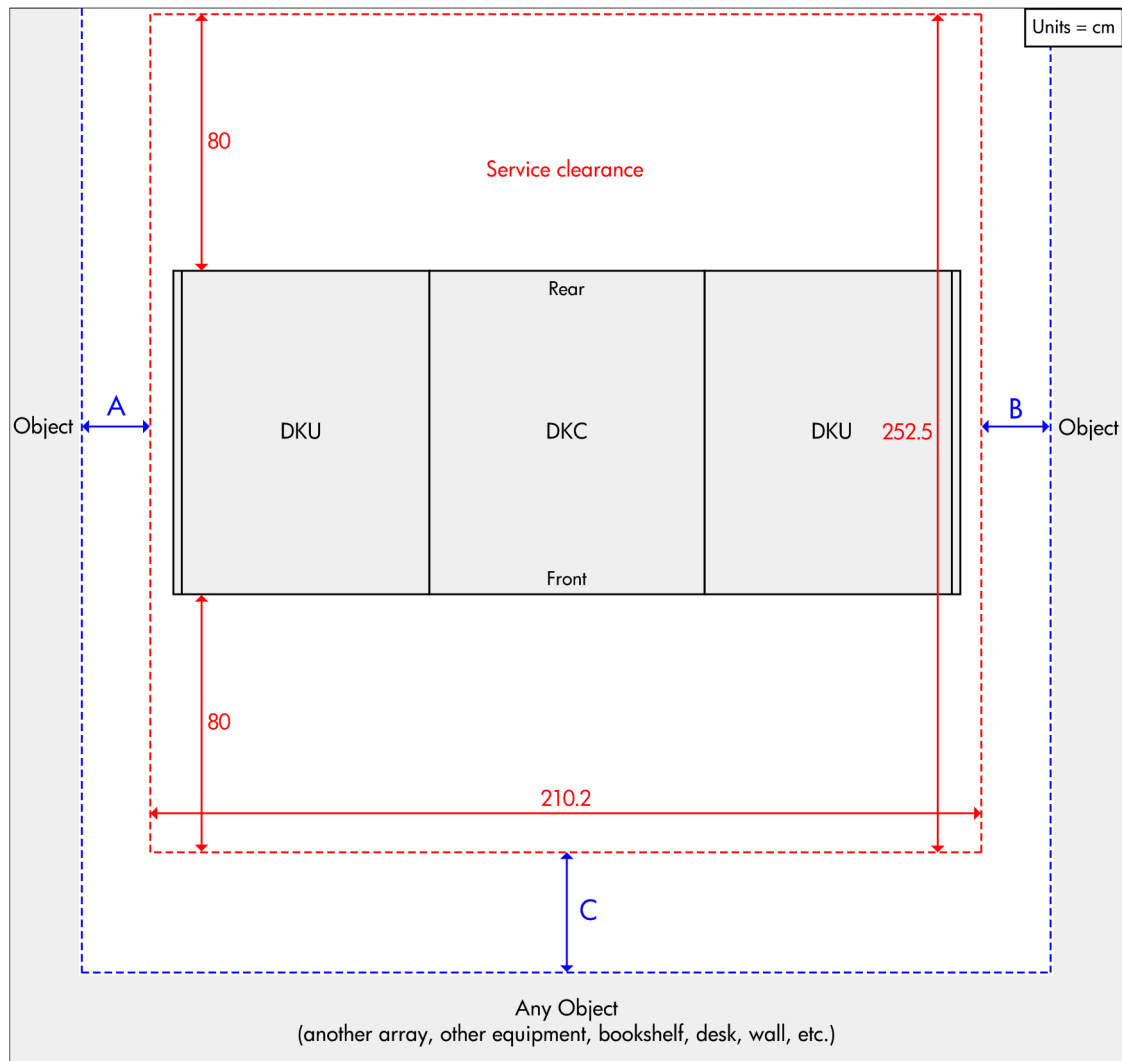

Figure 6. Floor clearance — DKC and two DKUs
- DKC with two DKUs—Figure 6 (page 40)